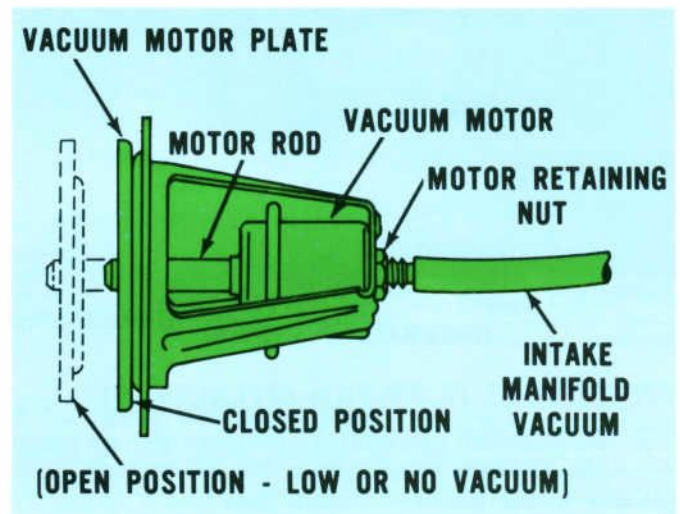

FIGURE 63. AIR VALVE AND VACUUM MOTOR ASSEMBLY
- In addition to checking the duct and valve assembly, the vacuum motor should be checked for functional operation. (See Figure 63.)